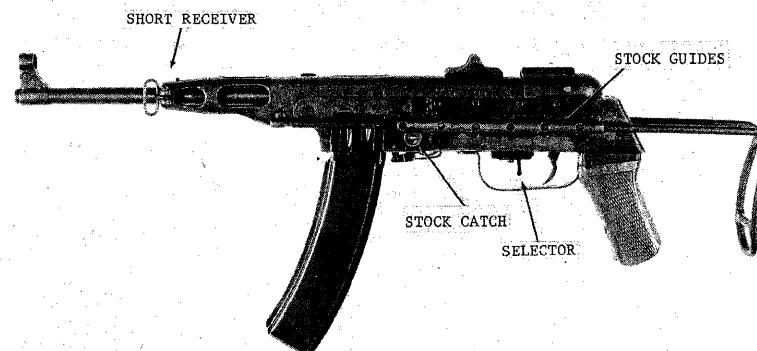

Figure 42. North Vietnamese K-50M submachinegun.
a. The K-50 modified submachinegun (fig 42) is an extensively altered PRC type 50 submachinegun that is used by the Viet Cong in Vietnam. The most obvious changes are the sliding metal butt stock, the short barrel jacket that eliminates the original muzzle brake-compensator, and the wooden pistol grip. The lower receiver has also been reshaped.
The K-50 Modified submachinegun is operated and functions exactly like its parent weapon, the PRC Type 50 submachinegun. See paragraphs 57, 58, and 59 for information. An additional feature, the telescoping stock, is operated by pressing in the stock catch at the front of the guides (fig 42) and sliding the stock to the desired position.